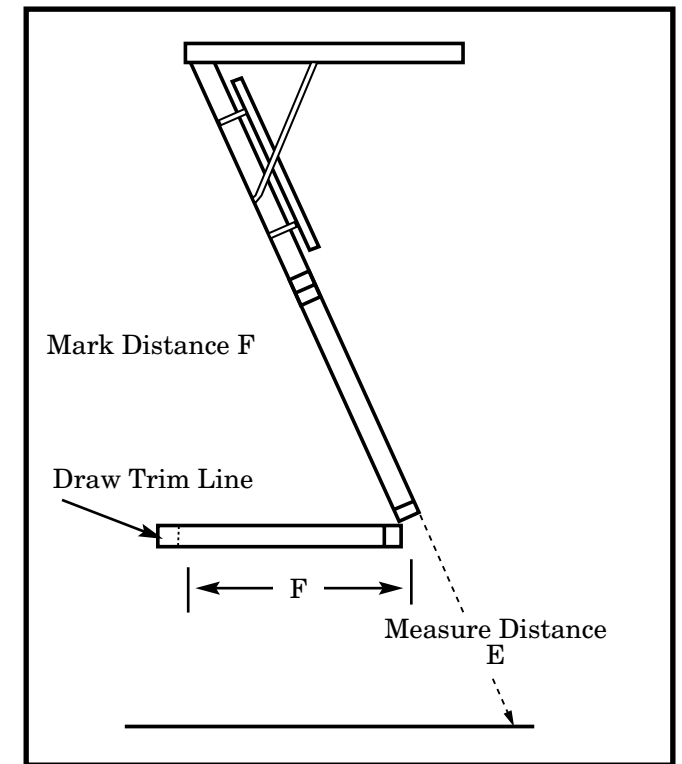

Figure 25
STEP 2. Fold the bottom section of the access ladder under the middle section. (Figure 25)
STEP 3. With a straight edge, measure distance "E" as shown in Figure 25 and record the measurements in the spaces below. Be sure to measure distance "E" from the top edge of the rails. These distances must be accurately measured to avoid trimming the legs too short.